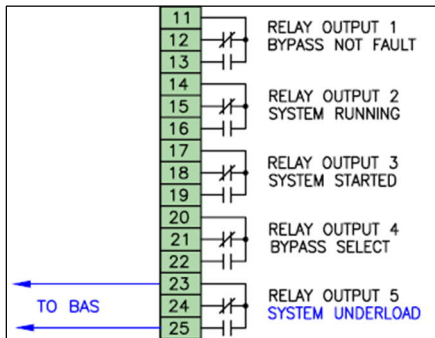

Figure 3: BAS Connection
There are several options to differentiate the underload condition from a general fault or warning. One way is to program an output relay to change state when an underload is detected. Those relay contacts can be monitored by the BAS. Another way is to monitor the status over fieldbus, such as BACnet object BV8 in the bypass. Figure 3: BAS connection, shows some of the detailed status information available in the E-Clipse bypass controller.
- 4B Figure 3 shows connections to RO5 for detection of an underload or broken belt.